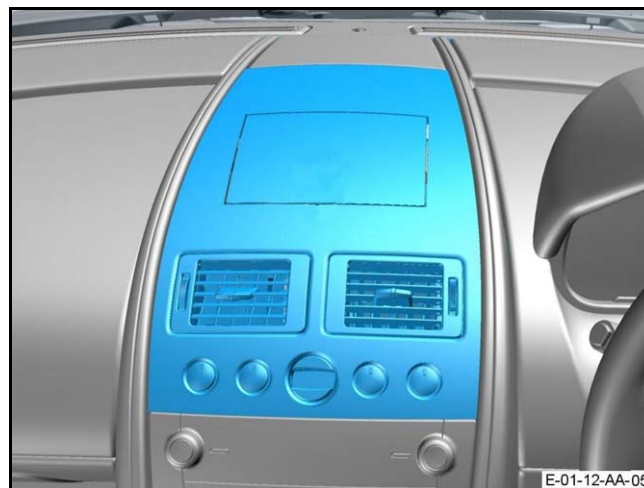

Figure 4
4. Remove the centre-stack instrument panel (instrument panel) (refer to Figure 4).